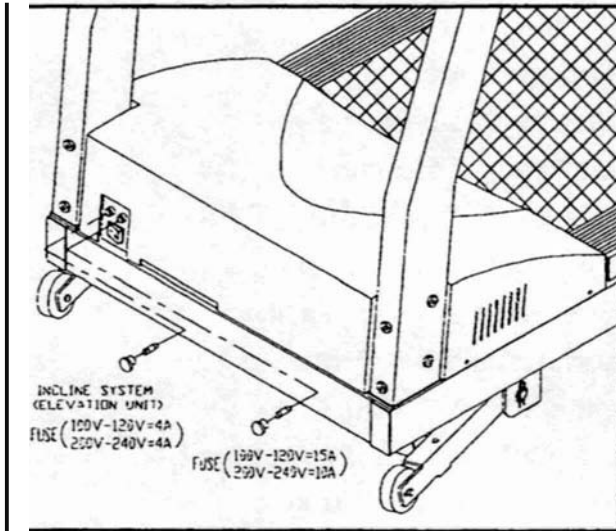

Fig.1
1. Find the fuse holder in front of the treadmill.(see Fig.1)